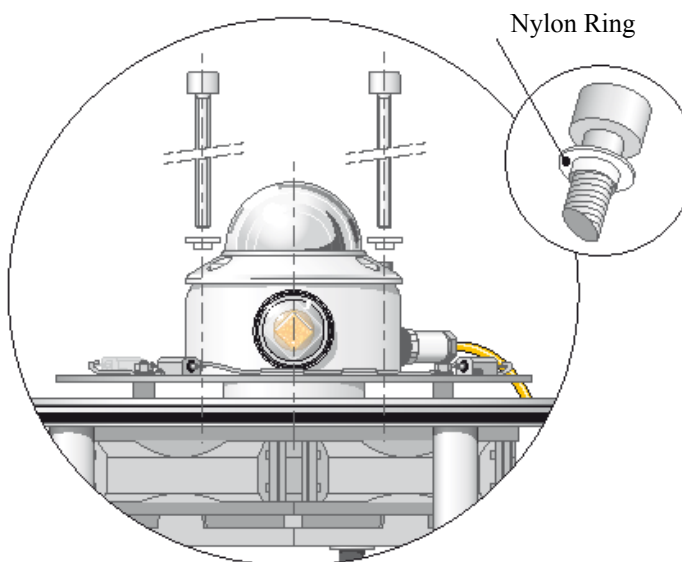

FIGURE A-2. Pyranometer mounted to the CVF3
2. Fit the pyranometer in the upper plate of the CVF3 (see FIGURE A-2).
3. Use the counter sink screws, nylon rings, and nuts to secure the upper plate of the CVF3 with the lower portion of the unit (see FIGURE A-2).